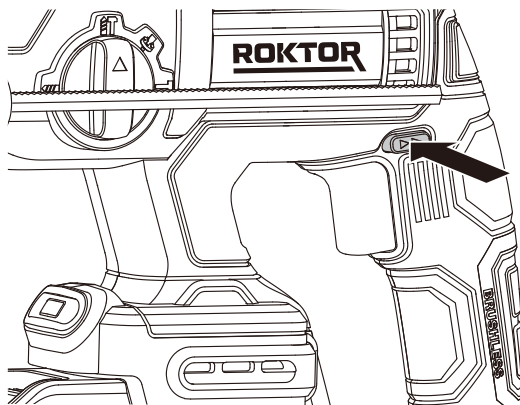

Figure 6
2. SWITCH LOCK (SEE FIG. 6)
3. FORWARD AND REVERSE ROTATION CONTROL (SEE FIG. 6)